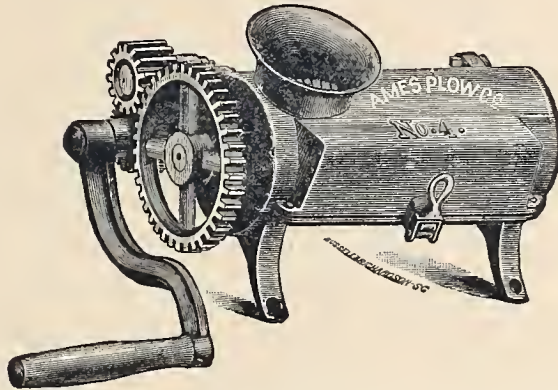

Fig. 470.—Meat-Cutter, No. 4, Geared.
**Meat-Cutter, No. 4, Geared**, represented by *Fig. 470*, is easily operated by one man, and is the usual size for butchers' use.